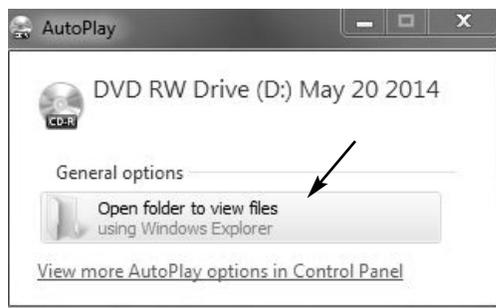

Figure 10-2. Window on CD Insertion
3. When the user inserts the CD into the CD/DVD drive, Figure 10-2 will appear. Select 'Open Folder to view files'. Select PC Interface.exe. based on operating system (32 bit or 64 bit). Your view may vary slightly.